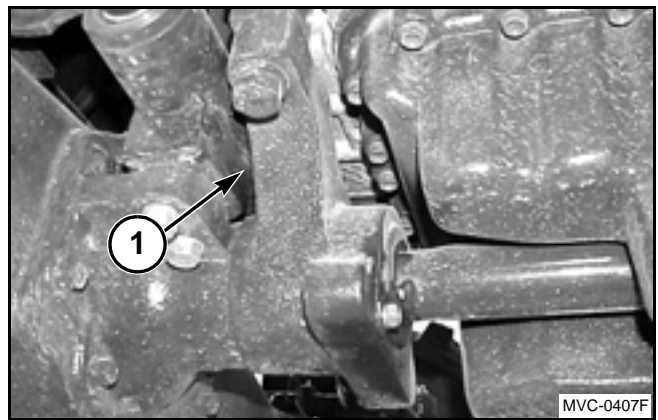

FIG. 6
FIGS. 6–7: Raise the front of the tractor slightly with an overhead hoist and support the front of the tractor frame with a suitable jack stand. Put a floor jack or suitable jack stands under the front axle. Remove the rear axle pivot (1) and front axle pivot (2) from the front frame.